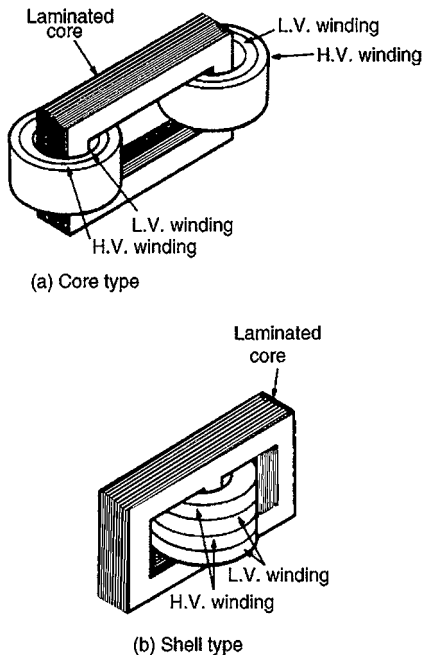

Figure 21.6
- (i) There are broadly two types of single-phase double-wound transformer constructions — the **core type** and the **shell type**, as shown in Fig. 21.6. The low and high voltage windings are wound as shown to reduce leakage flux.